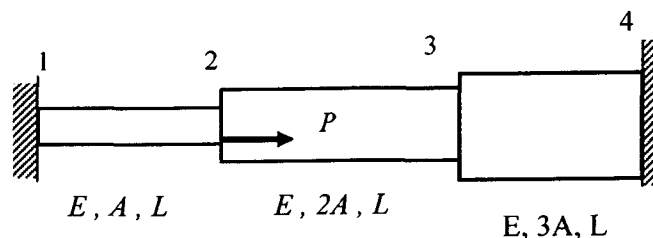

Figure 7(a)
4. (a) Write down the element stiffness matrices and global matrix for the **THREE (3)** bars assembly which is loaded with force P , and constrained at the two ends in terms of E , A and L as shown in Figure 7(a).